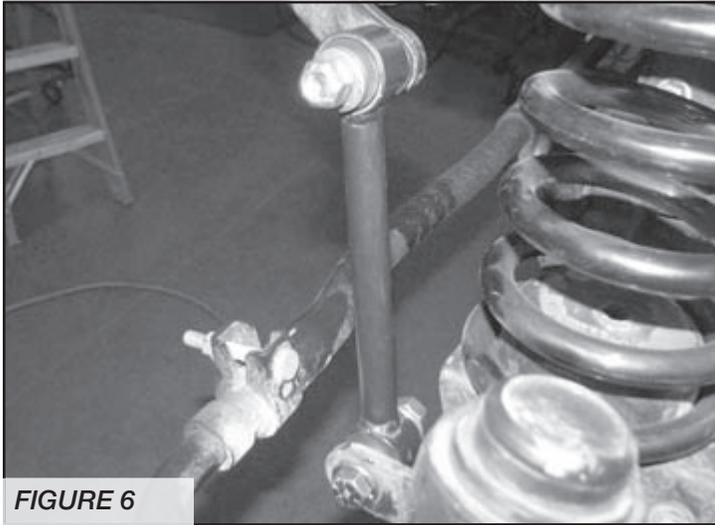

FIGURE 6
8. Locate FT50261BK Front Sway Bar End links, FT50048 & FT50089 bushing and sleeve kits. Press one bushing and one sleeve from the supplied bushing kit into each end of the end link. With the factory hardware, connect the new end link to the sway bar, then using the supplied 1/2" x 2-3/4" bolt, nut and washers, connect to the lower sway bar mount. Torque the upper hardware to 40 ft-lbs. and the lower hardware to 75 ft-lbs. SEE FIGURE 6